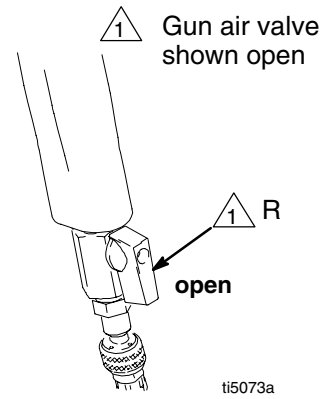

Fig. 8
- Air bleeds from the gun nozzle whenever the gun air ball valve (R) is open. Close the gun air ball valve to stop the air, if desired. See Fig. 8. See **Spraying Techniques** on pages 12 and 13 for more gun characteristics.